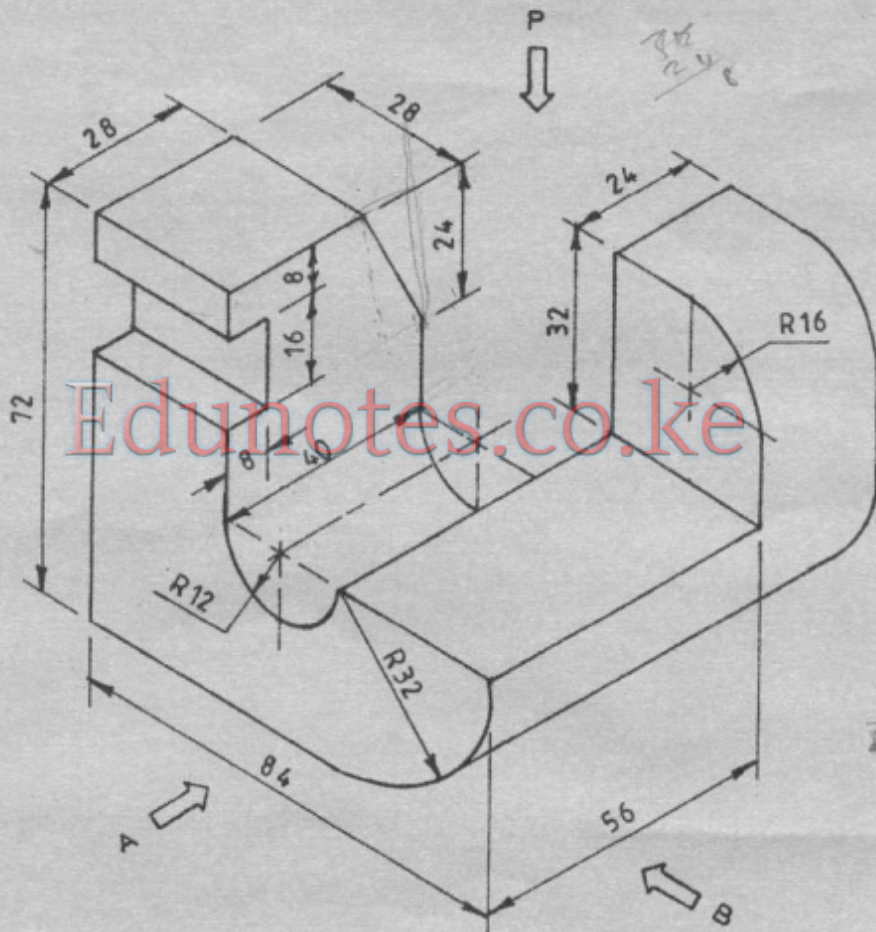

Fig. 1
5. **Figure 1** shows a pictorial view of an object. Draw, full size in first angle projection, the following views: